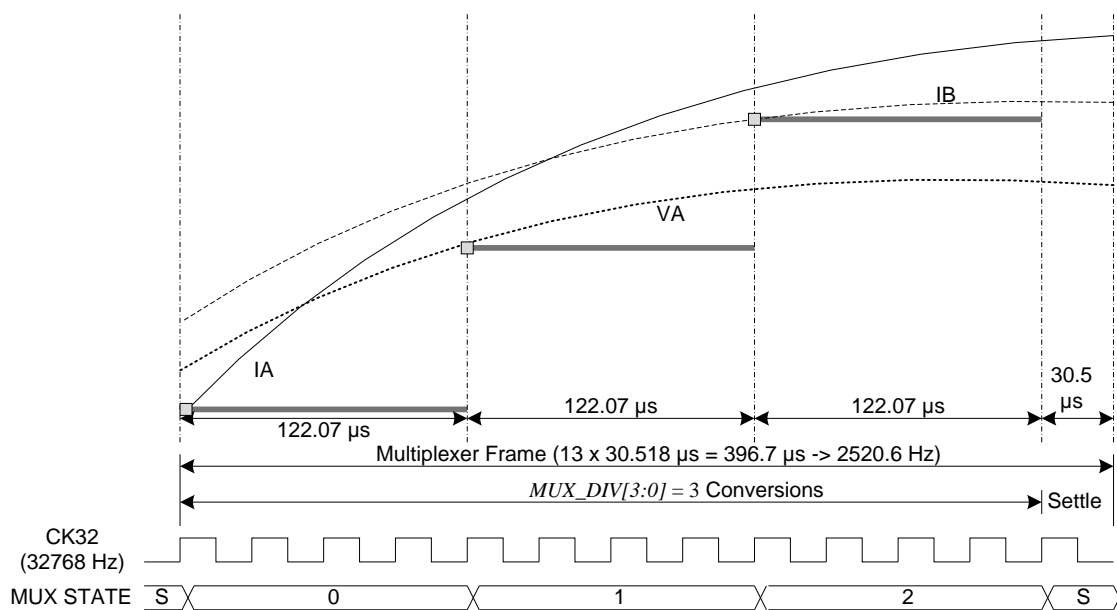
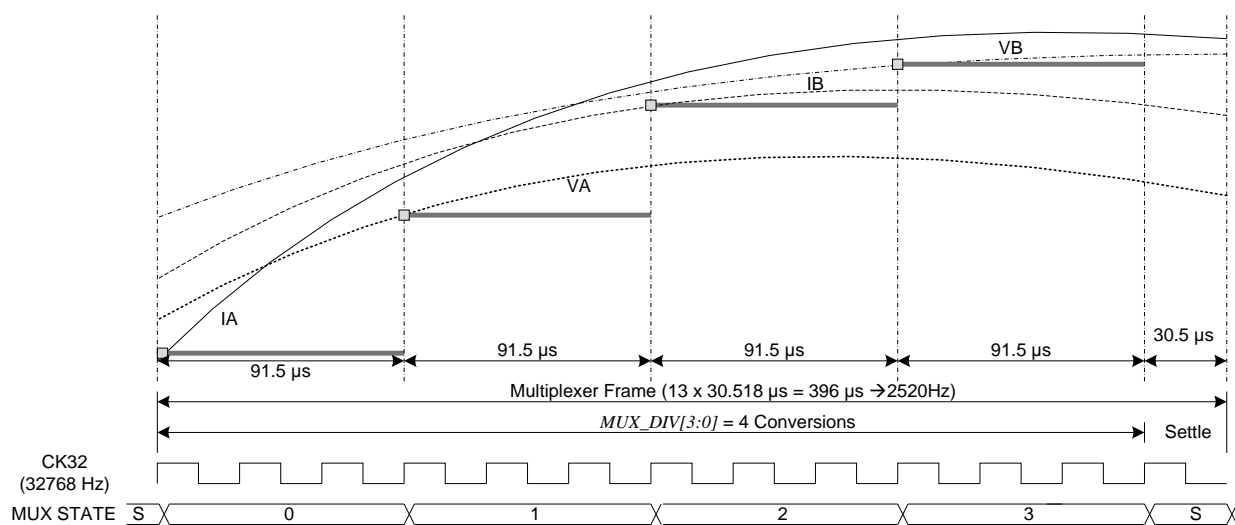

Figure 14: Samples from Multiplexer Cycle ($MUX_DIV[3:0] = 3$)
Figure 15: Samples from Multiplexer Cycle ($MUX_DIV[3:0] = 4$)
Figure 14 (71M6541D/F/G) and Figure 15 (71M6542F/G) show the sampling sequence when both current sensors (IA and IB) are connected directly to the 71M6541D/F/G as seen in Figure 2. However, when the
Referring to Figure 15, the 71M6542F/G features an additional voltage input (VB) permitting the implementation of a two-phase meter. As with VA, the VB voltage divider is directly connected to the 71M6542F/G and uses the ADC and multiplexer facilities in the 71M6542F/G. $MUX_DIV[3:0] = 4$ configures the multiplexer to provide an additional time slot to accommodate the additional VB voltage sample. As with the 71M6541D/F/G, IA samples are obtained from a current sensor that is directly connected to the 71M6542F/G, while IB samples may be obtained from a directly connected CT or a remotely connected shunt using a 71M6x01 isolated device as seen in Figure 2 and Figure 3.